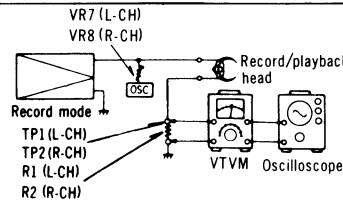

Fig. 31
- Make measurement for erase current. - Make sure that the measured value is within the erase current of 140mA to 170mA. - If it is beyond the value, carry out the following adjustments: - If the erase current is less than 140mA, short the point (A). - If the erase current is more than 170mA, open the points (A) and (B).
H Bias current Condition: * Record mode * Tape selector ... Normal position ... Fe-Cr position ... CrO ₂ position ... Metal position Equipment: * VTVM * Oscilloscope	- Test equipment connection is shown in fig. 31. - Place UNIT into record mode, and tape selector to normal position. - Read voltage on VTVM and calculate bias current by following formula: $\text{Bias current (A)} = \frac{\text{Value read on VTVM (V)}}{10 (\Omega)}$ Standard value: around 410μA (Normal position) - If measured value is not within standard, adjust VR7 (L-CH) and VR8 (R-CH) (See fig. 22 on page 5). - Set the tape selector to each position. - Make sure that the measured value is within standard. Standard value: around 440μA (Fe-Cr position), around 545μA (CrO₂ position), around 800μA (Metal position)